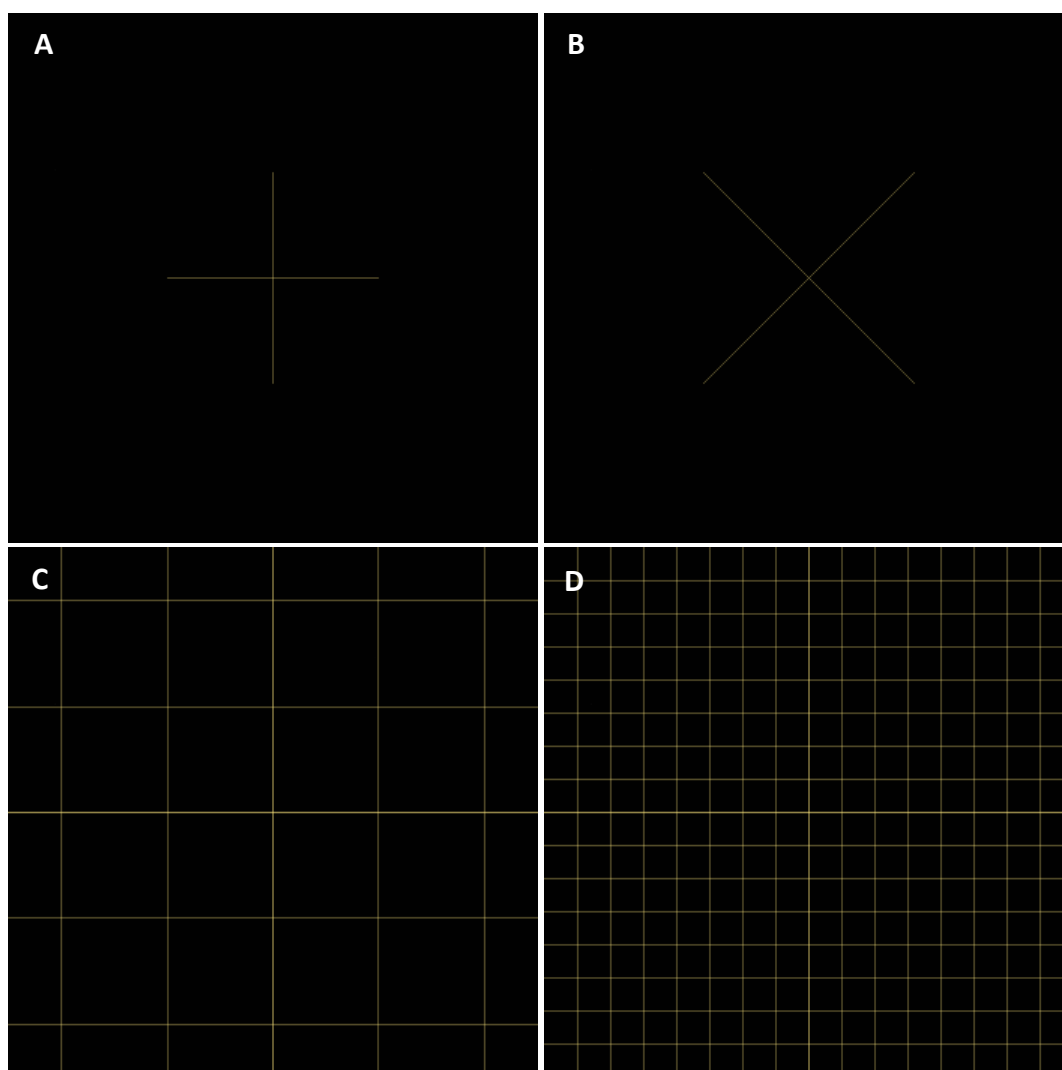

Figure 31 – Grid lines patterns
- Center Cross (X) – see Figure 31 (A)
- Center Cross (+) – see Figure 31 (B)
- Grid lines – see Figure 31 (C)
- Fine grid lines – see Figure 31 (D)